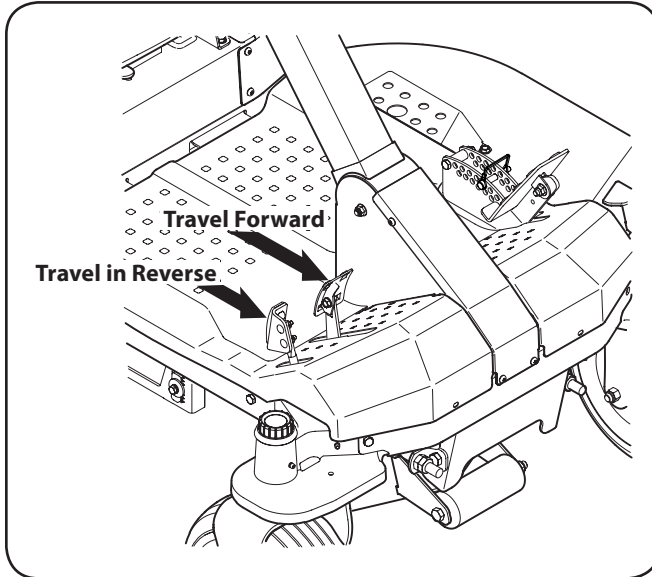

Figure 5-2
2. To travel FORWARD, slowly press the drive pedal forward until the desired speed is achieved. See Figure 5-2.
4. To travel in REVERSE, check that the area behind is clear then slowly reverse pedal with the ball of your foot (NOT your heel) until the desired speed is achieved. See Figure 5-2.